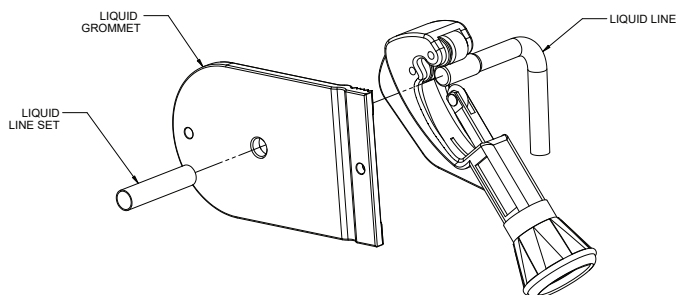

Figure 10A
4. Remove the spin closure on both the liquid and suction tubes using a tubing cutter (Refer to Figure 10A, 10B and 10C). **DO NOT USE A CUTTING METHOD THAT WOULD RESULT IN THE GENERATION OF COPPER SHAVINGS OR COPPER DUST.**